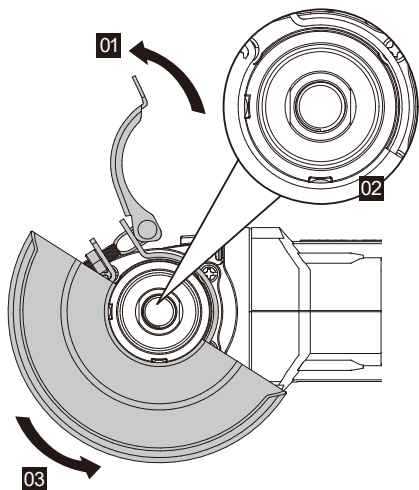

Figure 1-1
- Wheel guard for grinding (See Fig. 1-1 & 1-2)